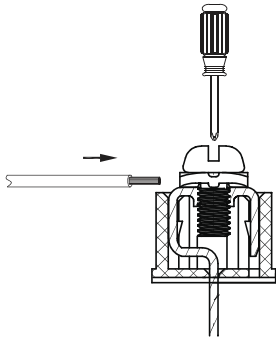

Fig. 24 —Connecting Communication Wire to Outdoor Unit Communication Terminal
3. Use a suitable screwdriver to fix the communication wire on the outdoor unit communication terminal as shown in Fig. 24.